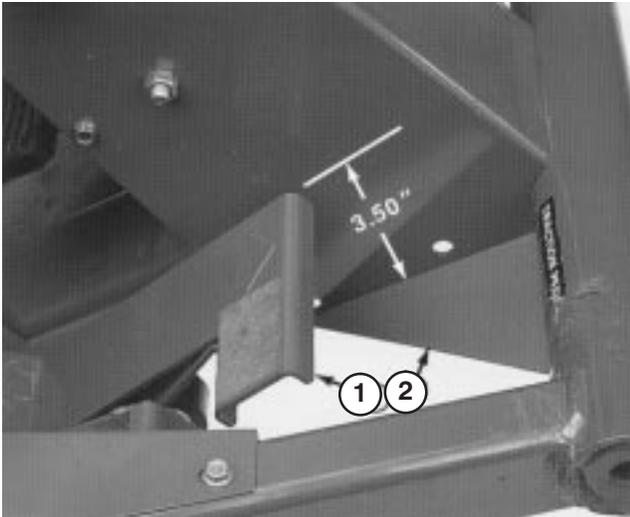
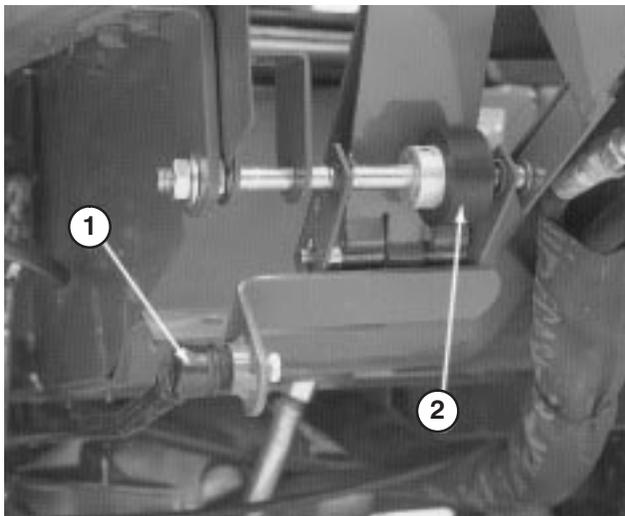

Figure 54
Figure 55
2. Press down on front of traction pedal and check travel. There should be approximately 3.50" clearance between end of pedal and floor plate when pedal in fully depressed (Fig. 54). Adjust pump control rod (Fig. 55) to attain dimension.
1. Loosen two nuts securing traction pedal shaft on right side of pedal (Fig. 55).